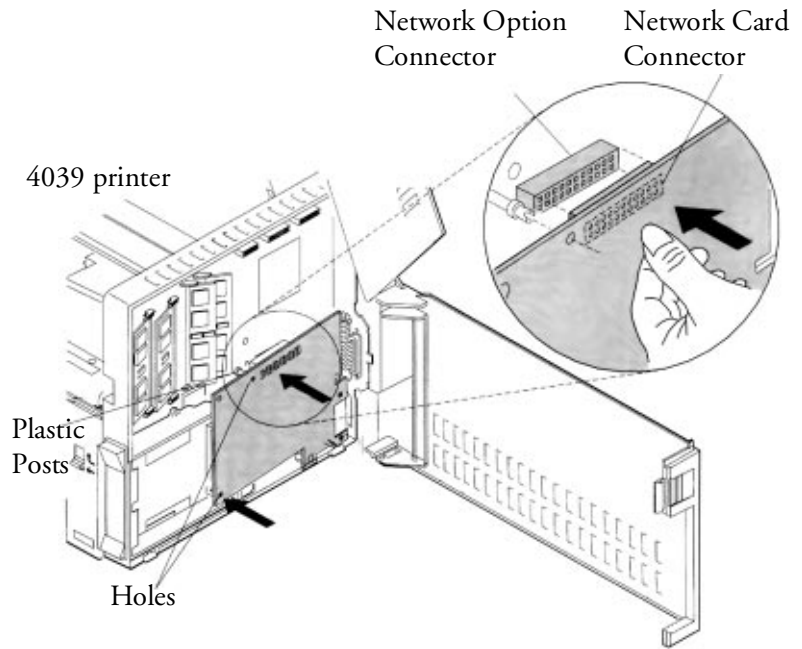

Figure 13. 4039 printer.
6. Mount the AFP IOP card to the IOP connector on the Lexmark printer. Fit the holes on the interface to the two white plastic pins on the main board. See figures 13 (4039) and 14 (Opra).